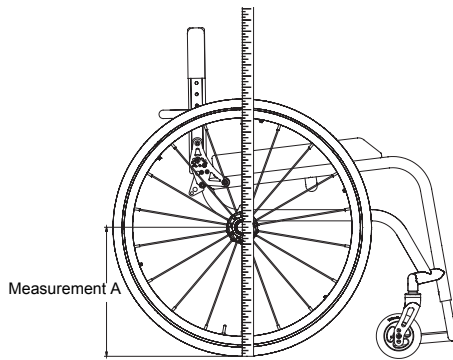

Figure 77
3. Place the chair on all four wheels with the front casters trailing toward the rear of the frame. See Figure 77.